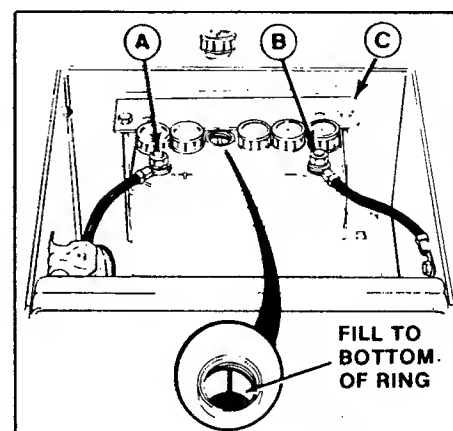

Figure 15. Battery Fluid Level
- Fluid must be even with split ring full mark (figure 15). If not, add distilled water.
1. Disconnect the cables from the battery, negative cable first (figure 15).
5. Reinstall battery and clamp (figure 15).